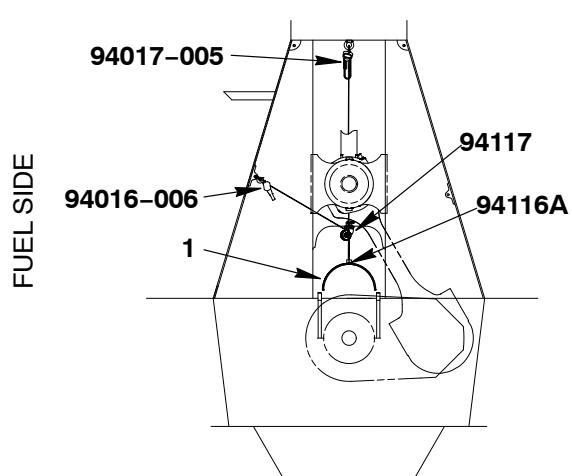

Fig. 28
- 14) Use the manual ratchet (94016-006, Fig.28) and the lifting tool (94116A) to lift the bearing shell (1).